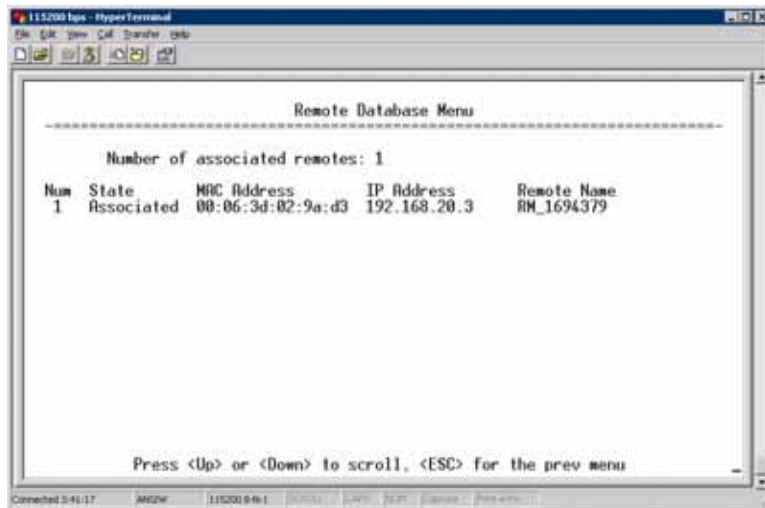

Figure 3-91. Remote Database Menu
- **Remote Database (AP Only)**—Displays a submenu where associated Remotes are listed in table form according to their number, operational state, MAC address, IP address, and name (if assigned). (See Figure 3-91 on Page 118.)